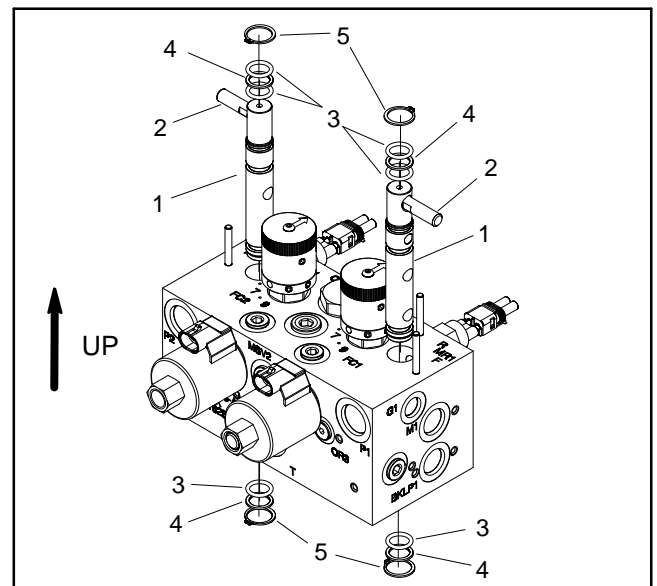

Figure 73
5. If necessary, remove mow/backlap spool from mow manifold (Fig. 73):
9. If mow/backlap spool was removed from mow manifold, install spool (Fig. 73):